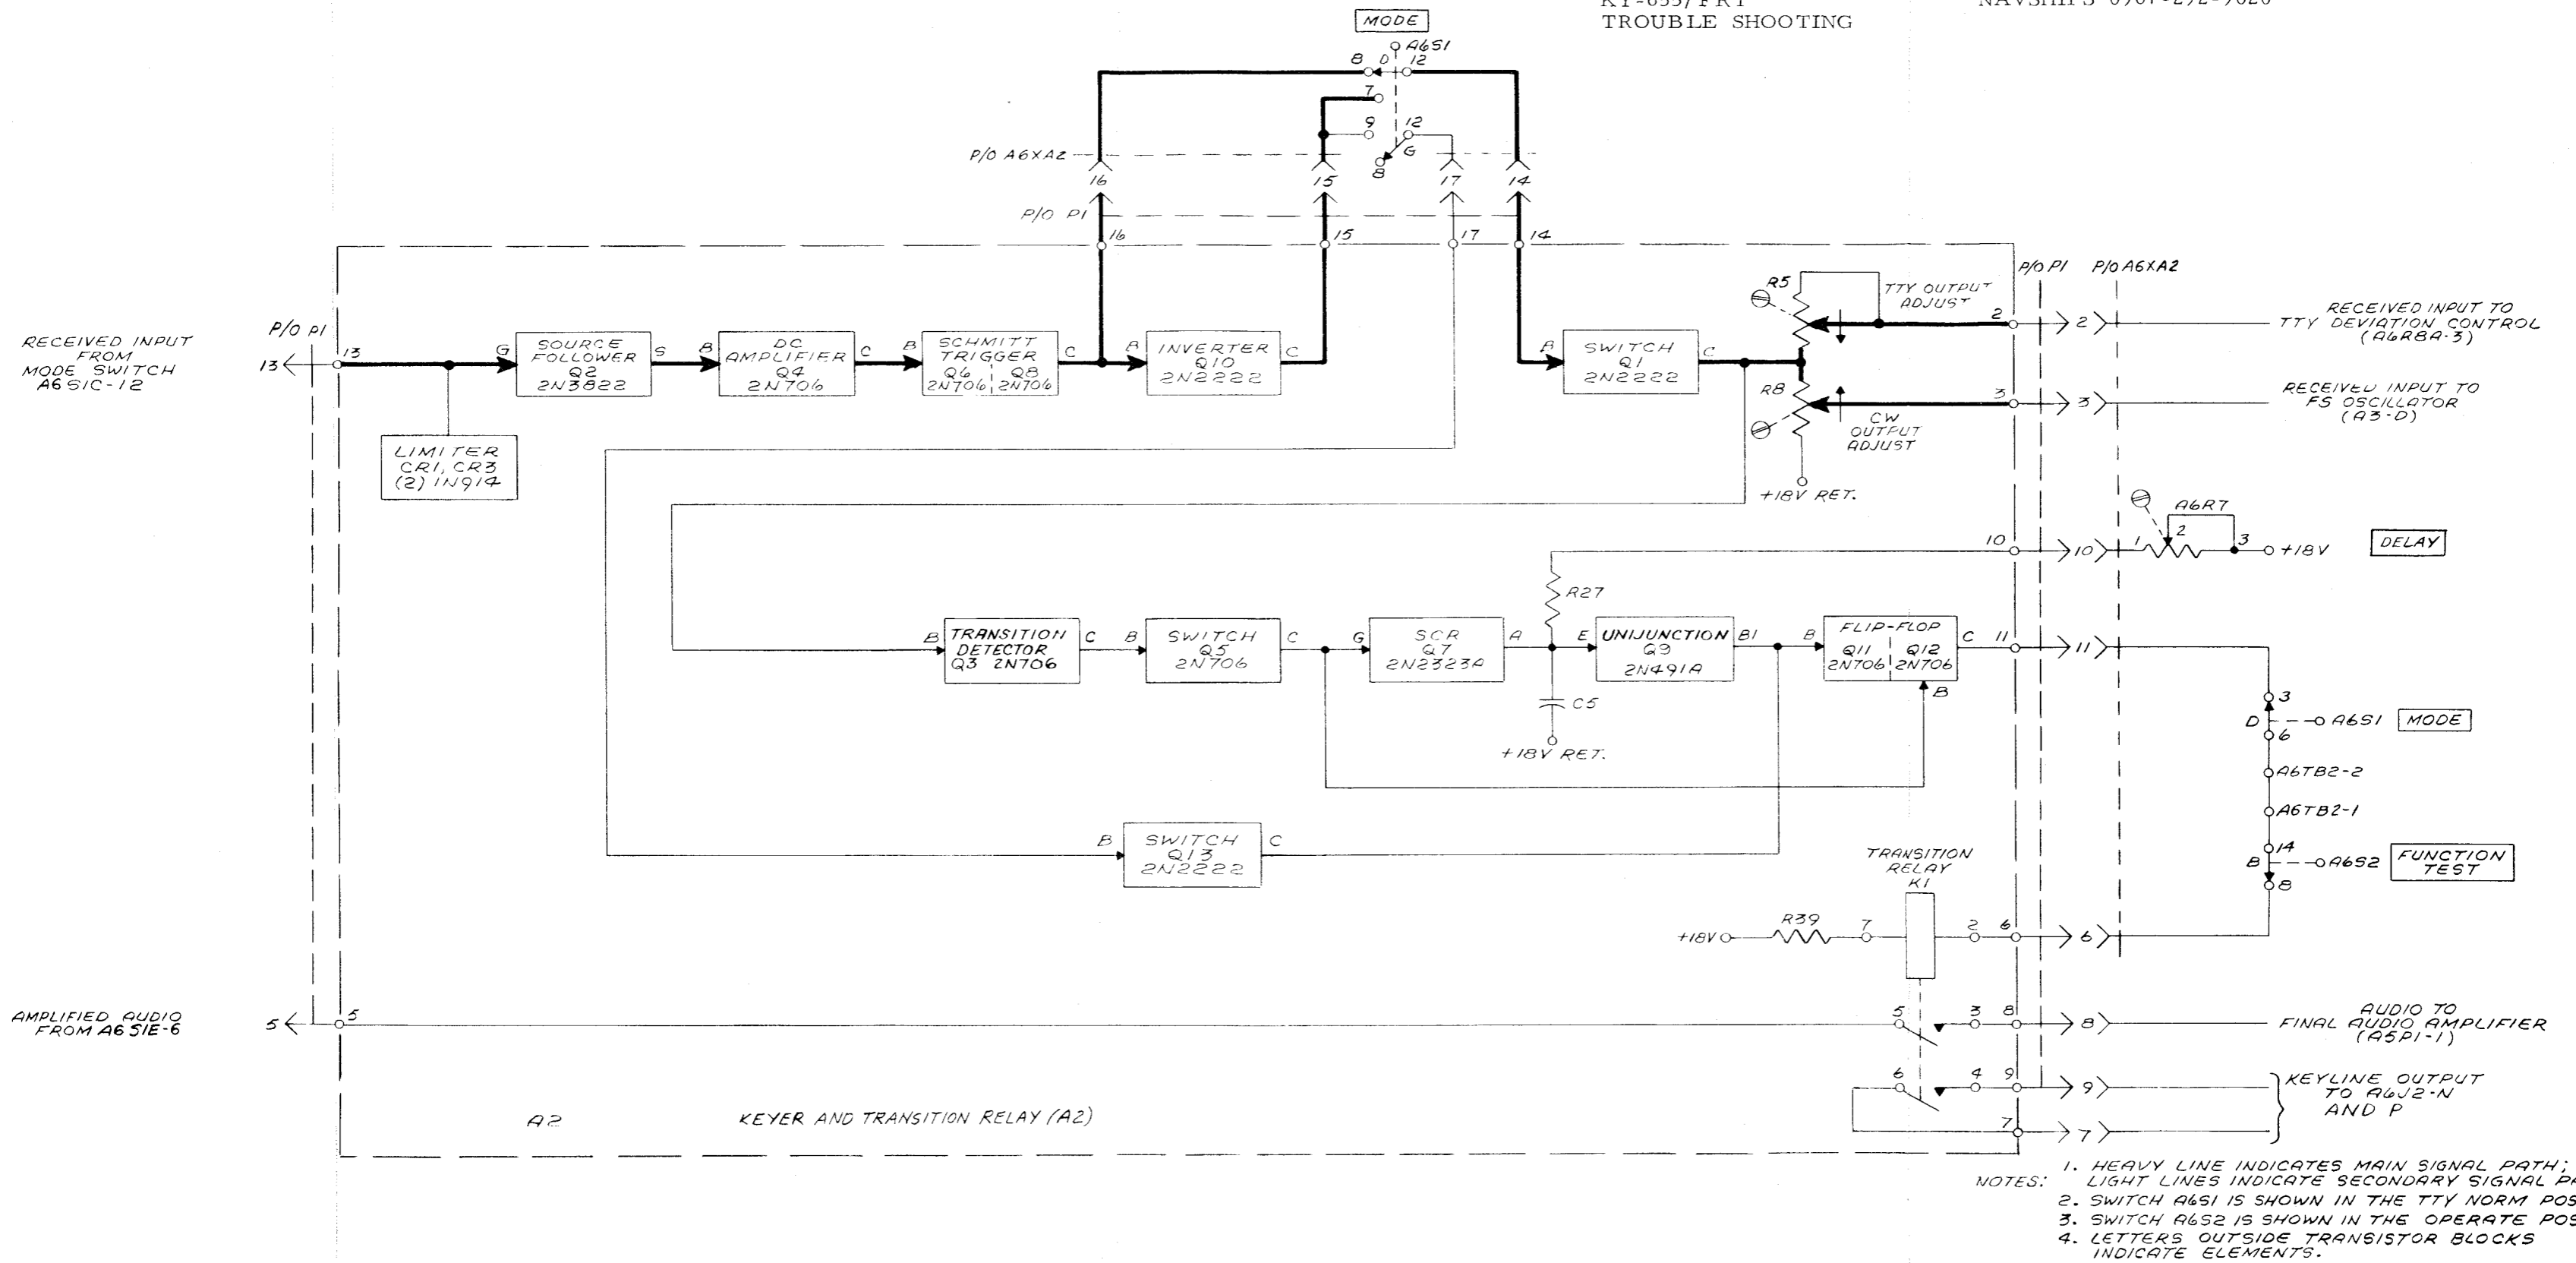

Figure 4-4. Keyer and Transition Relay Assembly (A2), Service Block Diagram
a. DESCRIPTION. - The keyer and transition relay module is a printed circuit board that contains an amplifier limiter circuit and a signal transition detector circuit. The amplifier provides amplification for cw (key) and teletype input signals; the transition detector detects an input signal change from high to low or from low to high and initiates a keyline closure to the transmitter by way of the exciter. These two circuits are described in the following paragraphs; refer to figures 4-4 and 5-18 as required.
(1) AMPLIFIER CIRCUIT. - The amplifier consists of transistors Q2, Q4, Q6, Q8, Q10, and Q1. The input signal is applied to the gate circuit of Q2 through A2P1-13. Diodes CR1 and CR3, in the gate circuit of Q2, protect the transistor against damage from excessive input voltages. Transistor Q2 is a source follower which has a high input impedance and a low output impedance, which provides an impedance match between the input signal and amplifier Q4. R14 is adjusted for side stability. (The adjustment of R14 is described in paragraph 5-2d(4).) Amplifier Q4 raises the level of the input signal to a level usable to drive the Schmitt trigger. The Schmitt trigger, which consists of Q6 and Q8, reshapes the input waveform. The output from Q8 is applied to the base of Q1 by way of A2P1-16, the MODE switch S1, and A2P1-14. When the MODE switch is in the TTY REV position, the output of Q8 is inverted by Q10 before being applied to the base of Q1. Transistor Q1 functions as a switch; a high output representing a "mark" and a low output represents a "space". The output from Q1 is used to shift the frequency of the FS oscillator module (A3). For the tty mode, the output of Q1 is adjusted by resistor R5; for the cw mode,
Figures 4-4 thru 4-7 are service block diagrams for the keyer unit modules. These illustrations provide maintenance technician with a pictorial guide for use in trouble shooting. Main signal flow is represented by heavyweight lines, and lightweight lines are used for secondary path. Arrowheads, placed on the flow lines, indicate the direction of signal flow. Waveforms, where applicable, are placed at appropriate test points on the service block diagrams.